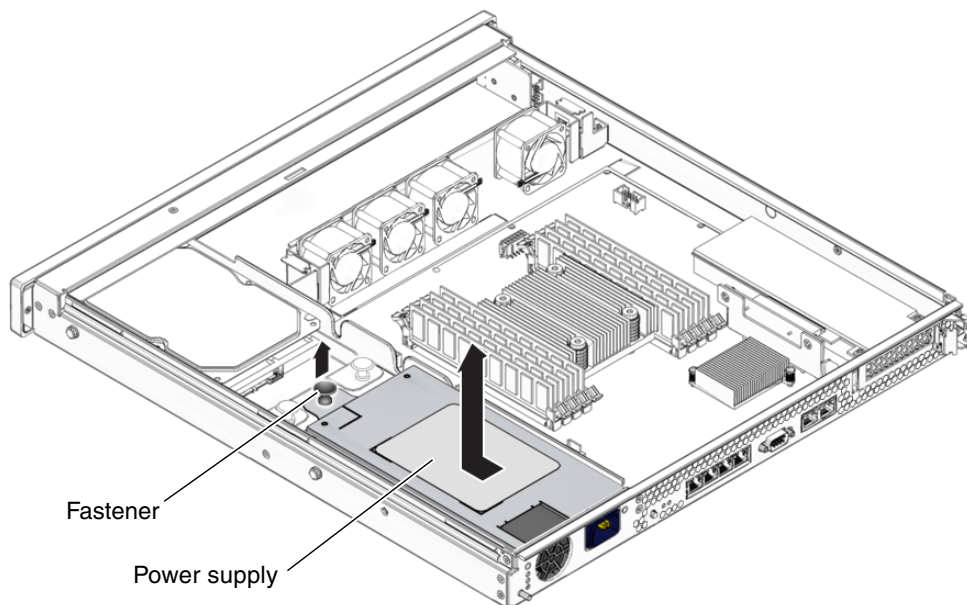

FIGURE 5-4 Removing the Power Supply
3. Pull the fastener up on the front of the power supply and remove the power supply from the chassis (FIGURE 5-4).